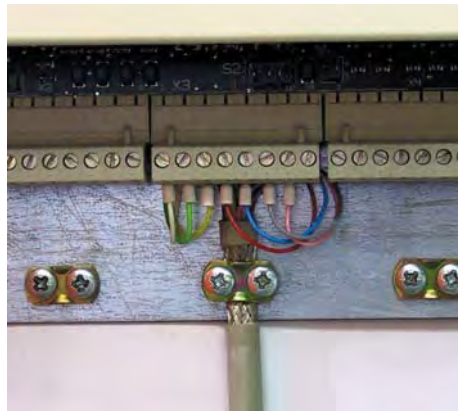

Figure 3-1 Connection of a cable screen with the aid of metal clamp to the metal surface
The cables for digital signals, which are longer than 3 m and all cables for analogue signals, must be screened. Each screen must be connected at **both** ends by metal clamps (see *Figure 3-1*) or comparable means directly on clean metal surfaces, if **both earthing points belong to the same earth line**. Otherwise a capacitor (e.g. 3.3 nF/3000 V) must be connected to earth on one end. In the converter cabinet this kind of connection must be made directly on the sheet metal close to the terminals (see *Figure 3-3* ③) and if the cable comes from outside also on the PE bar (see *Figure 3.3* ① and ②). At the other end of the cable the screen must be well connected with the housing of the signal emitter or receiver.
Connect the control cables to the appropriate terminal block (or optional terminal block and other options on the DIN rail at the left side of the cabinet). Tighten the screw to secure the connection. Connect the twisted screen (as short as possible) to the earthing rail \oplus of the terminal. See also *Figure 3-1* and *3-3*.